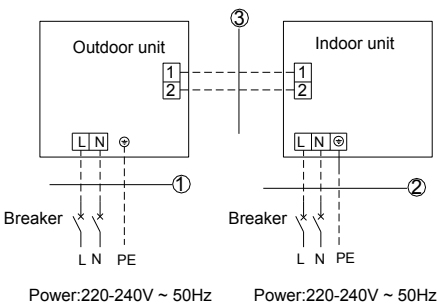
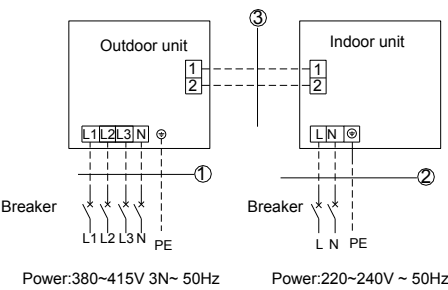

Fig. 4.39
Fig. 4.40
- ①. The power cord and the wire of the fresh air valve are high-voltage, while the communication cord and connection wire of the wired controller are low-voltage. They should run separately against electromagnetic interference.
- ②. The high-voltage and low-voltage lines should pass through the rubber rings at different electric box covers.
- ③. Do not bundle the connection wire of the wired controller and the communication cord together, or arrange them in parallel, otherwise improper operation would occur.
- ④. The high-voltage and low-voltage lines should be fixed separately and securely, with internal big clamps for the former and small clamps for the latter.
- ⑤. Tighten the indoor/outdoor connection cord and power cord respectively on the terminal boards with screws. Faulty connection may cause a fire.
- ⑥. If the indoor unit connection cord (to the outdoor unit) and power supply are wired incorrectly, the air conditioner may be damaged.
- ⑦. Connect the indoor unit connection cord properly based on the corresponding marks as shown from Fig.4.39 to Fig.4.40.
- ⑧. Ground both the indoor and outdoor units by attaching a ground wire.
- ⑨. Unit shall be grounded in compliance with the applicable local and national codes.